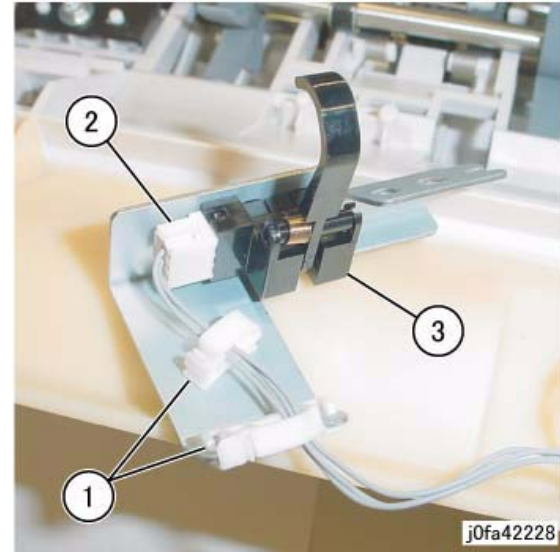

Figure 4 Removing the Compiler Exit Sensor
8. Remove the Compiler Exit Sensor (Figure 4):